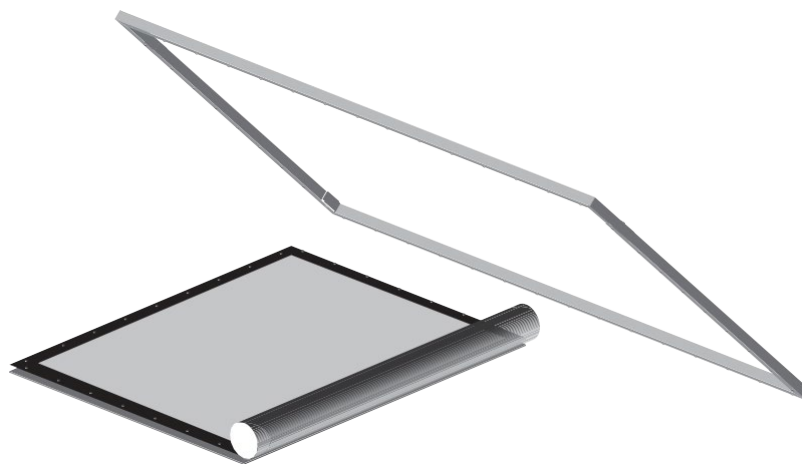

Figure 13: Unrolling the Screen
2. On a clean surface, unroll the screen **viewing side up** (see Figure 13).